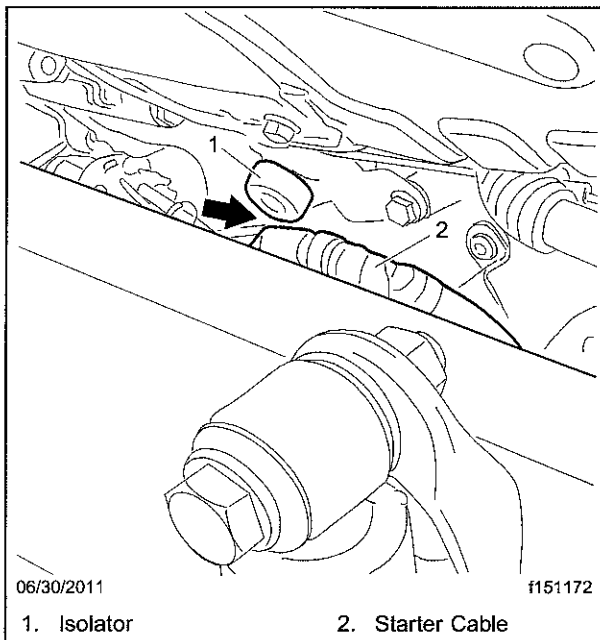
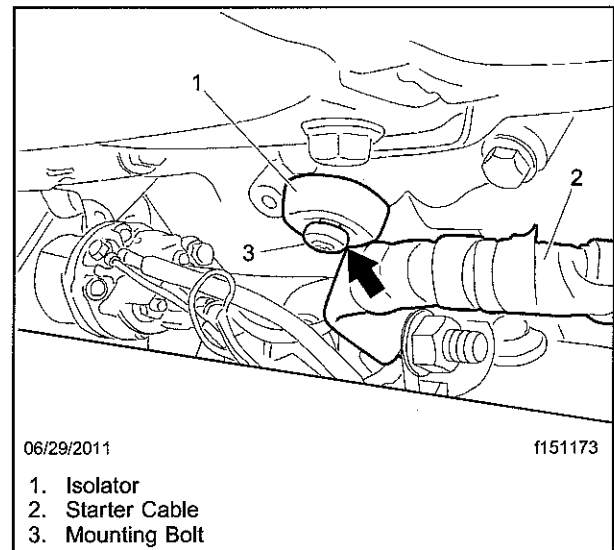

Fig. 1, Correct Isolator Installation
Fig. 2, Bolt Backed Out
If the bolt is present and there is a minimum of 1/2-inch of clearance between the isolator and the starter cable, no further action is necessary at this time. See Fig. 1.
If the bolt has backed out of the isolator and is protruding past the front surface of the isolator or if the starter cable is within 1/2-in of the isolator, take the vehicle to an authorized Daimler Trucks North America dealer for repair. See Fig. 2.
3. Locate the rubber isolator mounted to the side of the engine on the right-hand side of the vehicle. See **Fig. 1** and **Fig. 2**. Remove the capscrew and isolator.
4. Apply Loctite 272 high temperature thread-locking compound to the capscrew threads, then install the capscrew and the isolator, tightening the capscrew until the rubber isolator begins to compress. The mounting capscrew should not protrude past the front surface of the isolator, and there must be approximately 1/2-inch (13 mm) of clearance between the isolator and the starter cable. See **Fig. 1** and **Fig. 2**.